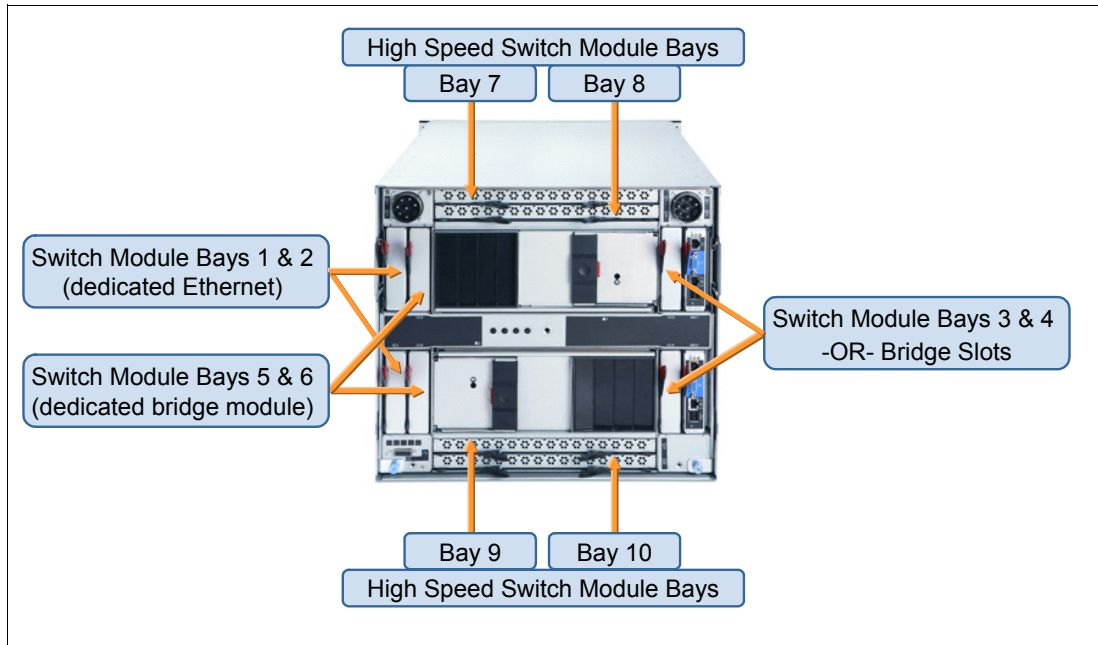

Figure 2-2 IBM BladeCenter H chassis switch module identification
- ▶ Up to ten module bays for communication and I/O switches or bridges — The modules interface with all of the blade servers in the chassis and alleviate the need for external switches or expensive, cumbersome, and error-prone cabling. All connections are done internally through the midplane. Two module slots are reserved for hot-swap/redundant Gigabit Ethernet switch modules. Two slots support either high-speed bridge modules or traditional Gigabit Ethernet, Myrinet, Fibre Channel, InfiniBand, and other switch modules. Two slots are dedicated for bridge modules. Four additional slots are dedicated for hot-swap/redundant high-speed switch modules. All modules, when installed in pairs, offer load balancing and failover support. Figure 2-2 on page 7 details the module bay locations.